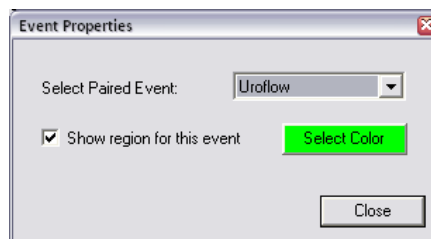

Figure 92: Event Properties – Select Paired Event
2. In the *Select Paired Event* dropdown menu, choose the type of test and select *Show region for this event* (Figure 92).